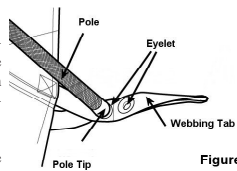

Figure 2
4. Insert one end tip of a pole into the eyelet in the webbing tab nearest to the fabric (the outer one is for the peg) and repeat with the other end, by grasping the webbing tab firmly and pushing the pole through the sleeves (see figure 2). To achieve this the pole sleeves must be eased over the poles, especially over the